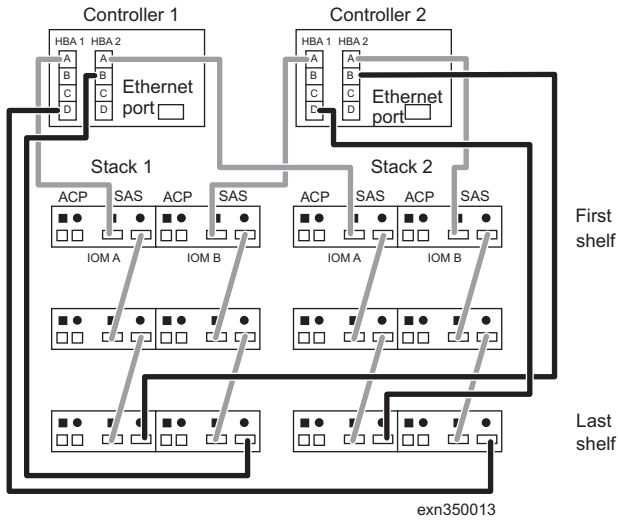

Figure 14. Cable the last shelf SAS connections
3. Cable the last shelf SAS connections, as shown in Figure 14 on page 10.